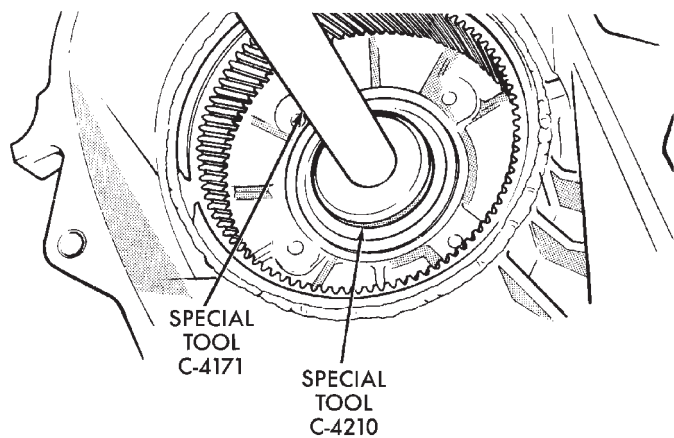
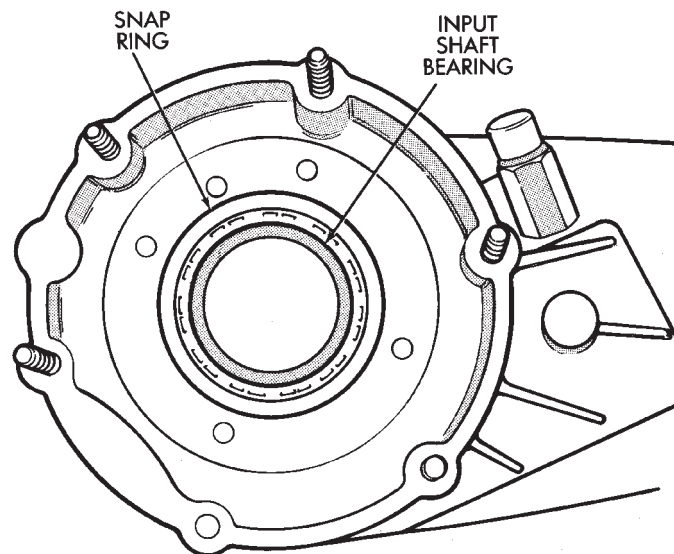

Fig. 49 Input Shaft Bearing Removal
Fig. 50 Seating Input Shaft Bearing
(9) Using Remover C-4210 and Handle C-4171, drive input shaft bearing from inside the annulus gear opening in the case. (Fig. 49).
(10) Install locating ring on new bearing.
(11) Position case so forward end is facing upward.
(12) Using Remover C-4210 and Handle C-4171, drive input shaft bearing into case. The bearing locating ring must be fully seated against case surface (Fig. 50).